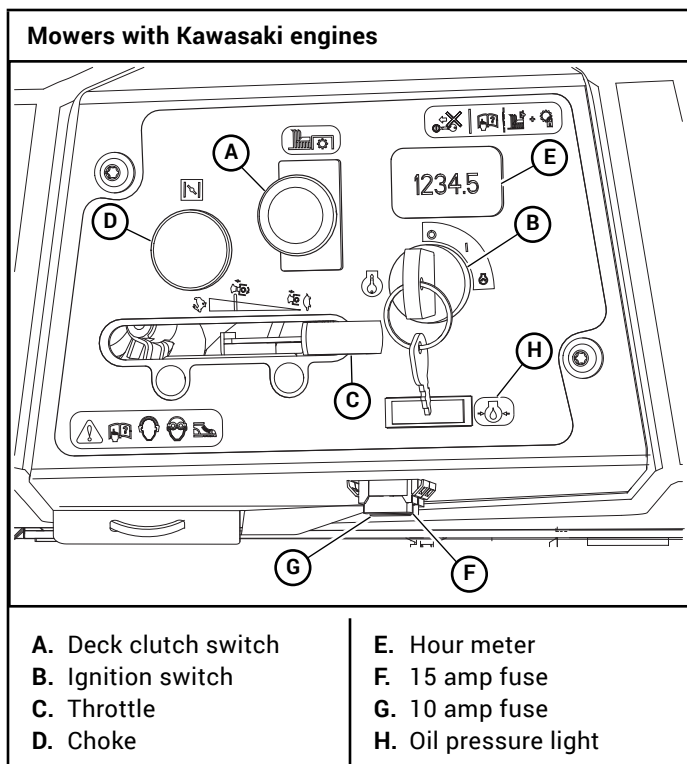

Figure 3-1
- A. **Deck clutch switch (Figure 3-1)** – this switch engages the deck. Pull the switch up to engage and push the switch down to disengage the clutch.
- B. **Ignition switch (Figure 3-1)** – a three position switch: “OFF”, “RUN”, and “START”. With the key inserted, rotate it clockwise to the “START” position; release the key when the engine starts, and the switch will automatically return to the “RUN” position.
- C. **Throttle control (Figure 3-1)** – a cable is linked to the engine throttle for controlling engine speed. Move the lever forward to increase engine rpm, move the lever rearward to decrease engine rpm.
- D. **Choke control (Figure 3-1)** – a cable is linked to manually operate the engine choke. When the lever is in the down position, the choke is in the “OFF” (run) position. When the knob is pulled up, the choke is in the “ON” (start) position. **Do not** operate the machine in the “ON” (start) position.
- E. **Electronic hour meter (Figure 3-1)** – registers 1/10 hour increments up to 9,999.9 total hours. It is connected to the ignition switch. It records the accumulative time while the ignition key is switched to the “RUN” position.
- F. **15 amp fuse (Figure 3-1)** – Deck clutch – 15 amp, blade-type.
- G. **10 amp fuse (Figure 3-1)** – Ignition/Safety system – 10 amp, blade-type.
- H. **Oil pressure light (Figure 3-1)** – this light comes on when the ignition switch is placed in the RUN position and stays lit until the engine is running and a safe oil pressure is developed. If the light comes on during operation, shut the engine off immediately and locate and correct the problem.